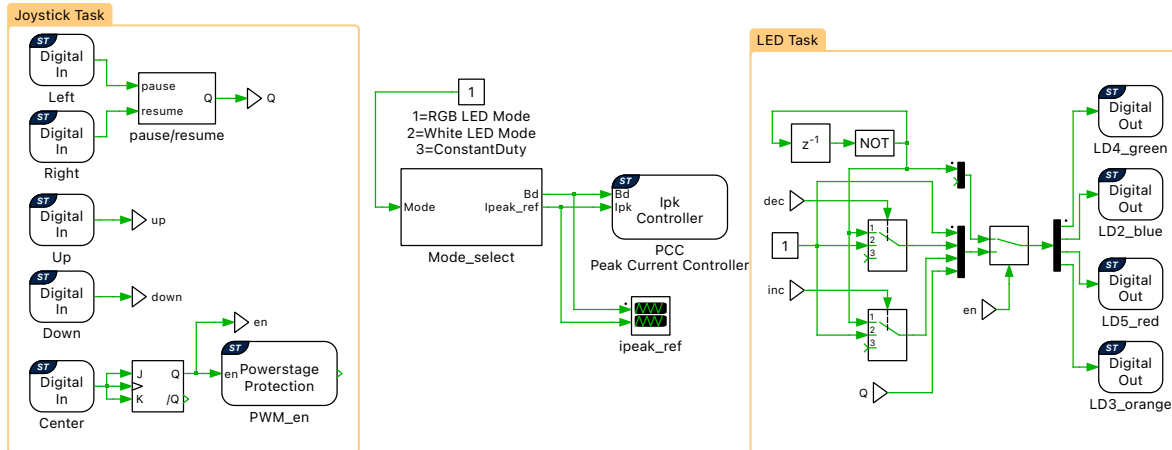
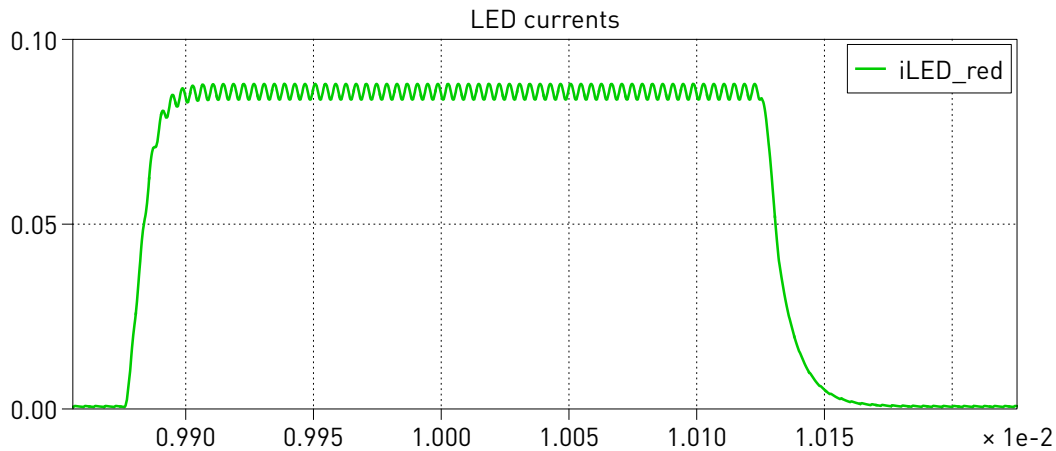

Fig. 3: Controller subsystem
Fig. 14: Current through the red LED with a constant Bd of 0.1
A detailed view of the “Controller” subsystem is shown in Fig. 3. The Peak Current Controller component² is responsible for current regulation. The “Mode_select” subsystem allows the user to choose between different control modes for the RGB LED module. The B-G474E-DPOW1 Discovery kit’s joystick inputs are read as digital input signals that are used to start and stop mode cycling, set the global brightness level, and enable the PWM outputs. Four signal LEDs are used as indicators displaying the mode of operation.
The controller in Fig. 3 on p. 3 contains components from the STM32 Target library.
button of the joystick B2 (labeled Center in Fig. 3 on p. 3) is used. The Powerstage Protection block⁷ implements a finite state machine to enable or disable all PWM outputs on the target MCU. A logic low to high transition enables the PWM outputs, while a high to low transition disables them.
Blocks in the PLECS schematic are assigned to lower priority tasks using the Task Frame library component⁸. In this model two lower priority tasks are defined in addition to the Base Task, as seen in Fig. 3 on p. 3. The table below lists the sample times of the lower priority tasks, with respect to the Base Task. The execution rate of the Base Task f_c , in this case, is 20 kHz.
Run the model as provided to observe the LED and inductor currents, as well as the PWM waveforms. If desired, the mode can be changed from the *Mode* input of the subsystem labeled “Mode_select” in Fig. 3 on p. 3. The LED current waveform of the red LED, with a constant Bd of 0.1, is shown in Fig. 14. The offline model also allows the user to emulate pushing joystick buttons.
- 4 Then, return to the “Controller” schematic, and set the *Mode* input to the subsystem labeled “Mode_select” in Fig. 3 on p. 3 to 2.